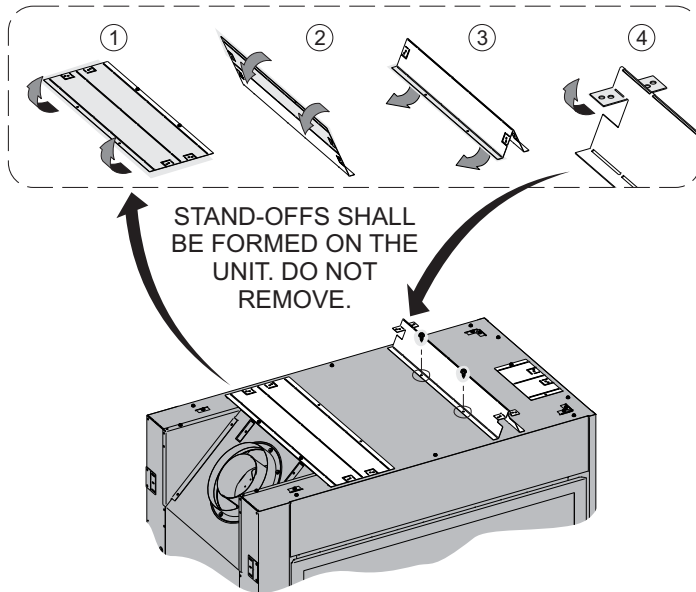

Figure 21
- Before placing the fireplace inside the frame work, or building the frame work around the fireplace, the top stand-offs must be formed and secured. Form the top stand-offs in the sequence shown in **Figure 21**, and secure them to the firebox outer top using either four (SP) or five (PP) screws from your hardware pack.